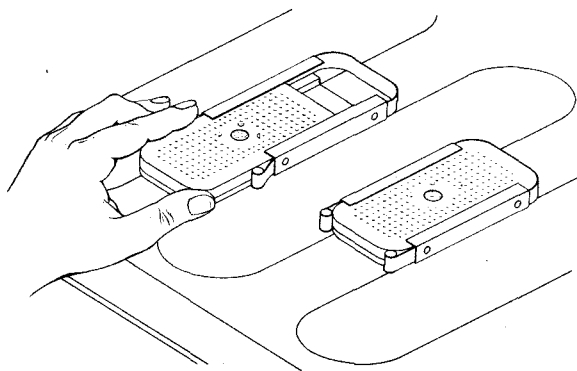

Figure 5-1. Dryer Units
b. DRYER UNITS.—When the receiver chassis is removed from the case for any reason, examine the silica-gel dryer units held in clips in the bottom of the case. Slip the dryer unit from the clip, as shown in Figure 5-1, and inspect the contents through the mica window in the top of the cartridges. If the granules are light blue or grayish, the dryers are still effective and should be replaced in the clips. A faint pink color indicates a saturated condition, and new units from spare stock must be installed.